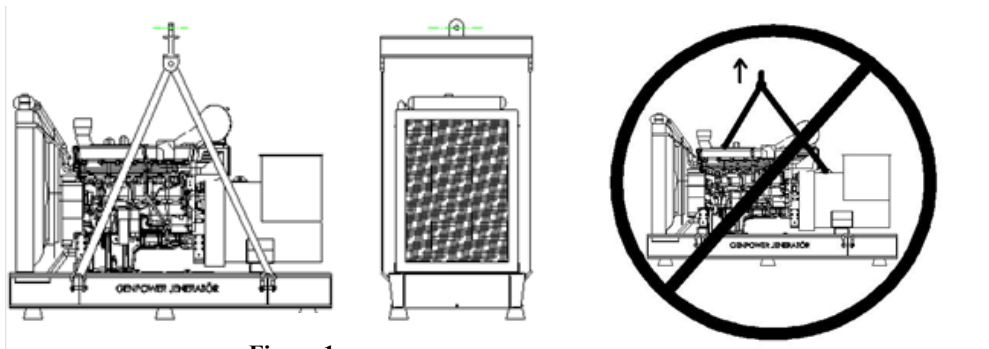

Figure 1
- * Use lifting eyes are made for this purpose on the chassis in OPEN type generators. (Figure 1)